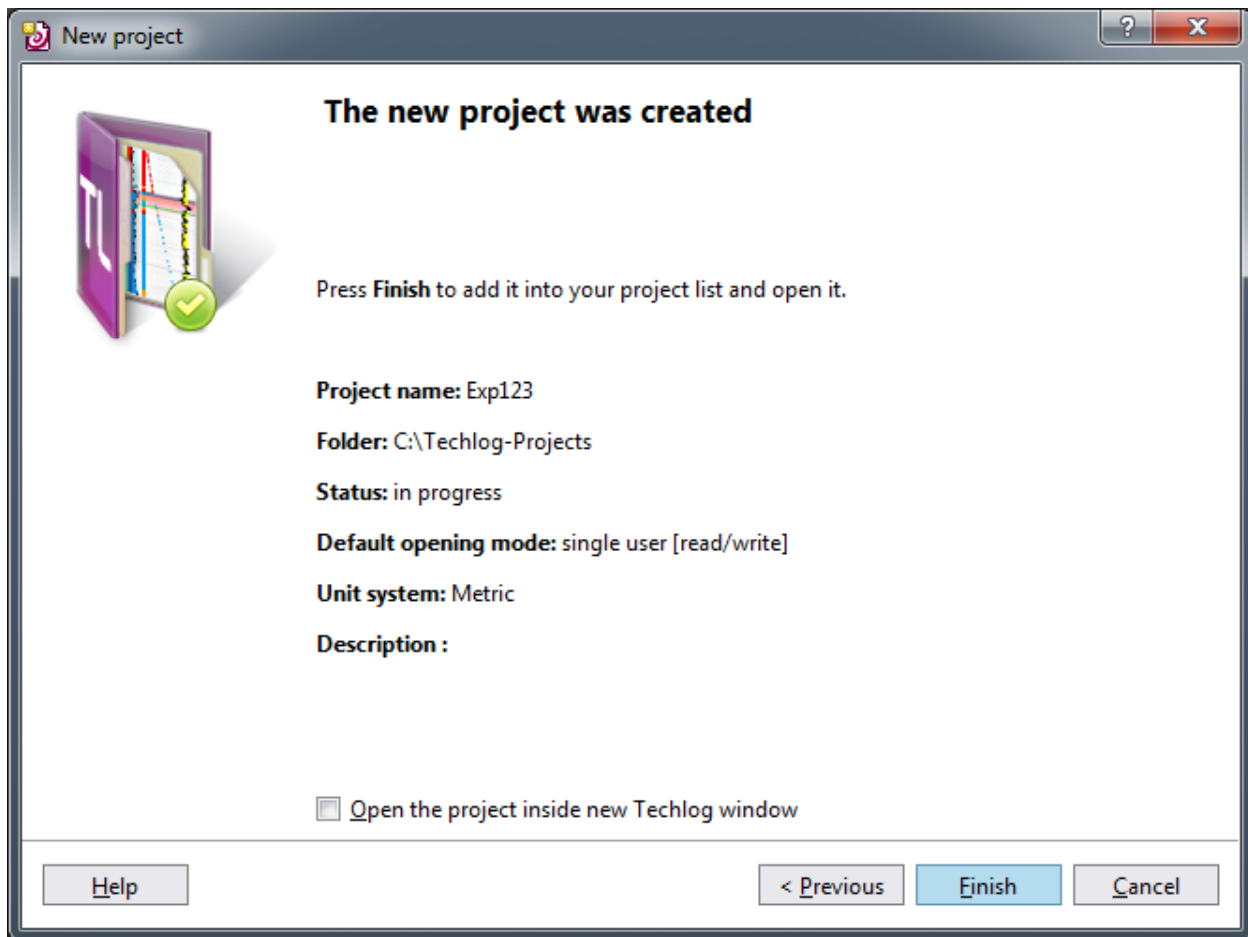

Figure 5: File browser showing the location and IODP-Techlog .
6. Skip the third window that appears. In the next (fourth window), click Finish (Fig. 5).